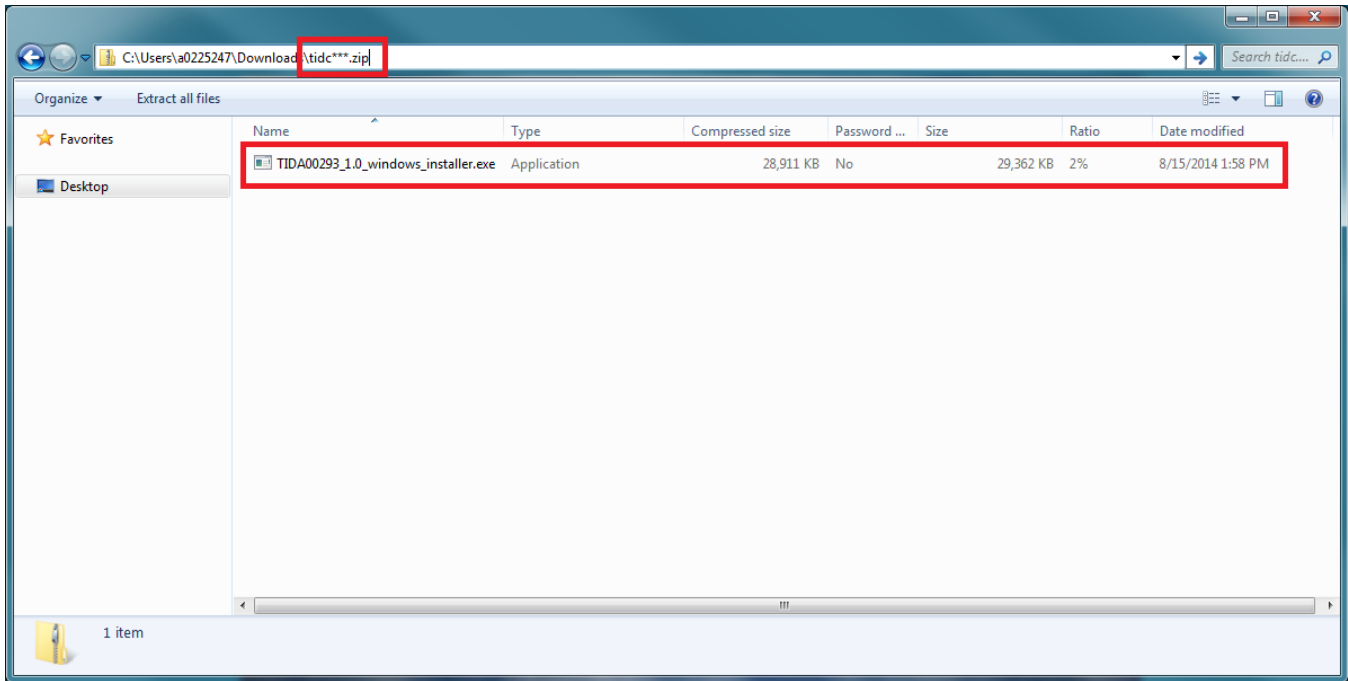

Figure 2-11. DLP 3D Printer Reference Design Installation Executable
2. Install the DLP 3D Printer Reference Design by executing the file "TIDA00293-***-windows-installer.exe," as shown in Figure 2-11.